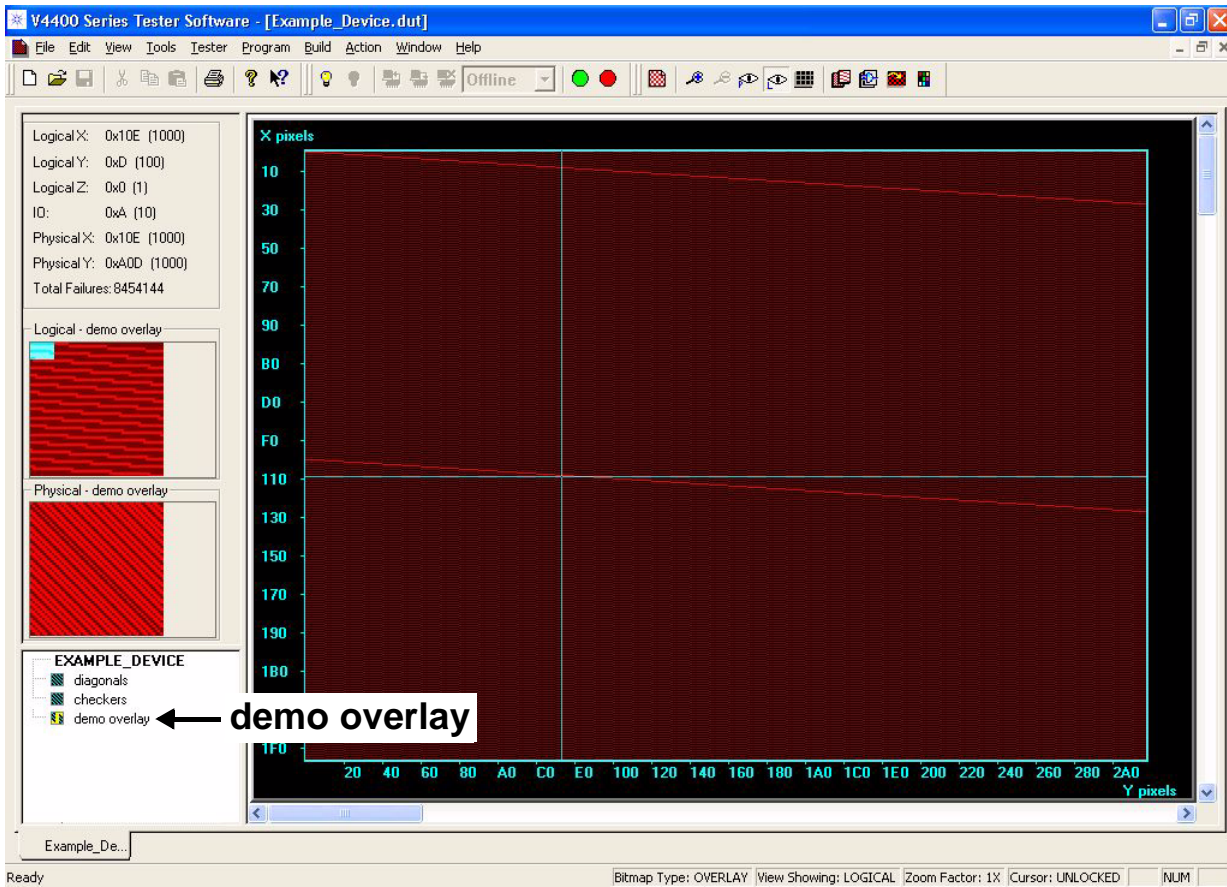

Figure 8-69. Main Window Displaying Overlay Bitmaps
- 3 Typing demo overlay in the Enter Overlay Name text box and then selecting **OK** displays the overlay in the main window (Figure 8-69). By default, bits where only one bitmap failed are dark red. Bits where both bitmaps failed are bright red.